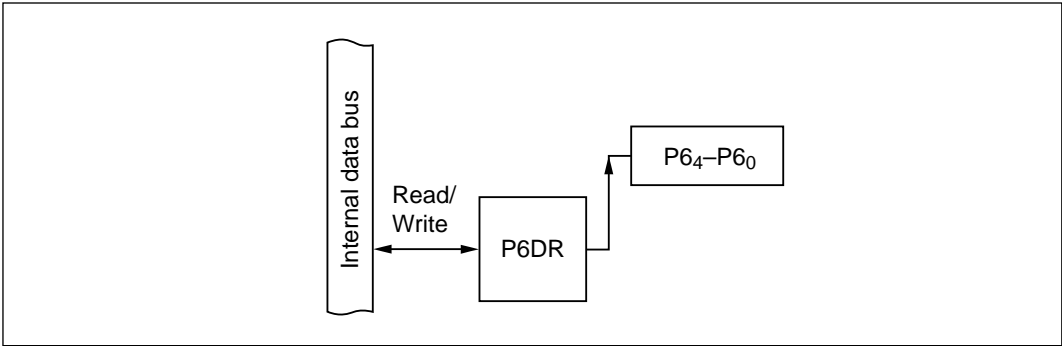

Figure 10-37 Output Port (Modes 1 to 7)
(2) Output Port (Modes 1 to 7): Figure 10-37 shows a block diagram illustrating the general-purpose output function. Table 10-29 indicates register read/write data. The value written in the port 6 data register (P6DR) is output at the pin. When read, P6DR returns the value written in P6DR.